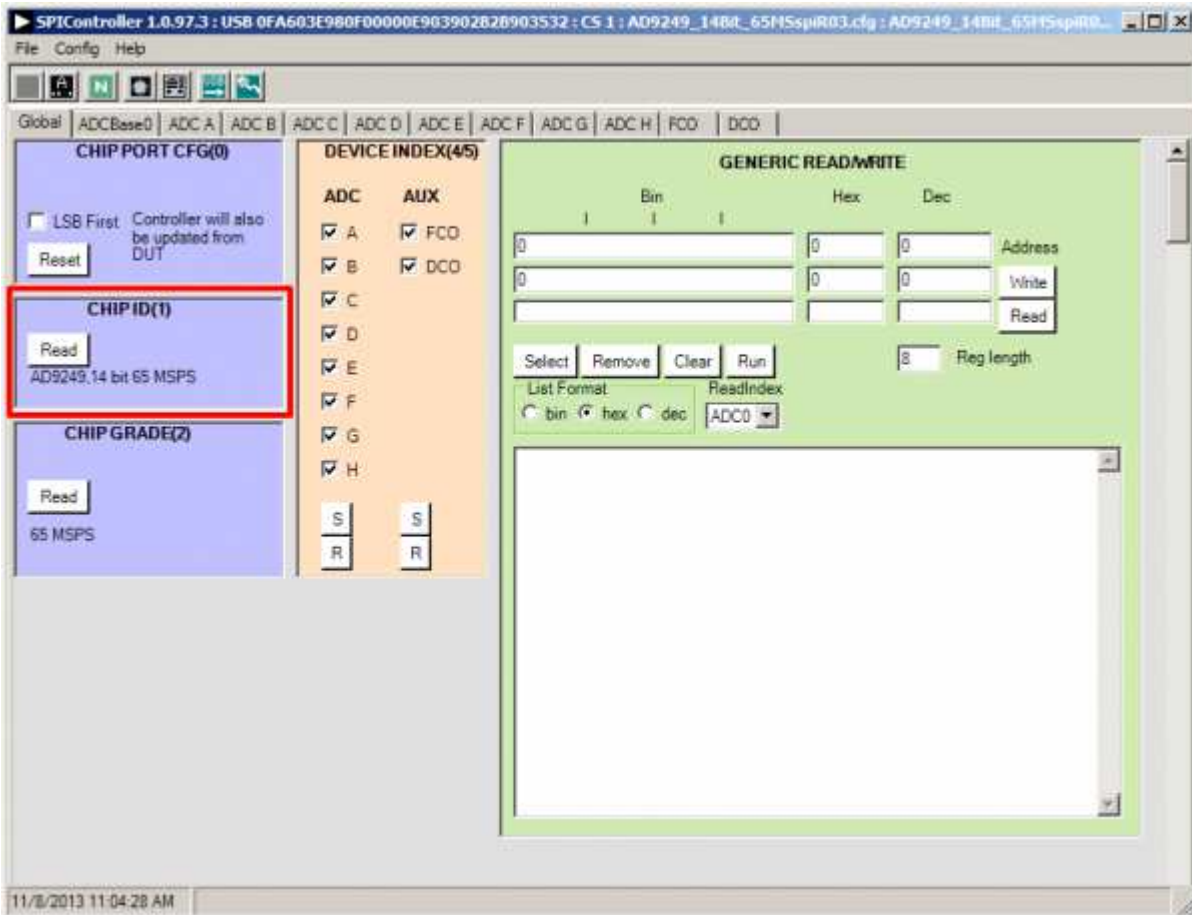

Figure 7.
1. Open the SPI controller software by going to the **Start** menu or by double-clicking the **SPIController** software desktop icon. If prompted for a configuration file, select .cfg file whose name begins with AD9249. If not prompted, check the title bar of the window to determine which configuration is loaded. If necessary, choose **Cfg Open** from the **File** menu and select the appropriate file based on your part type. Note that the **CHIP ID(1)** box should be filled to indicate whether the correct SPI controller configuration file is loaded (see Figure 7).